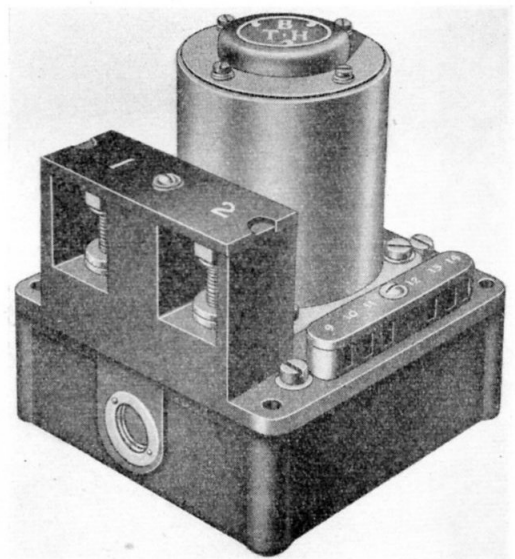

Fig. 1. Magnetic switch, Type 15B
1. The magnetic switch, Type 15B (fig. 1) is a single-pole, single-throw contactor for the remote control of circuits carrying up to 400 amp. at a nominal voltage of 24 volts d.c. It incorporates an economy winding to give a reduced holding current.